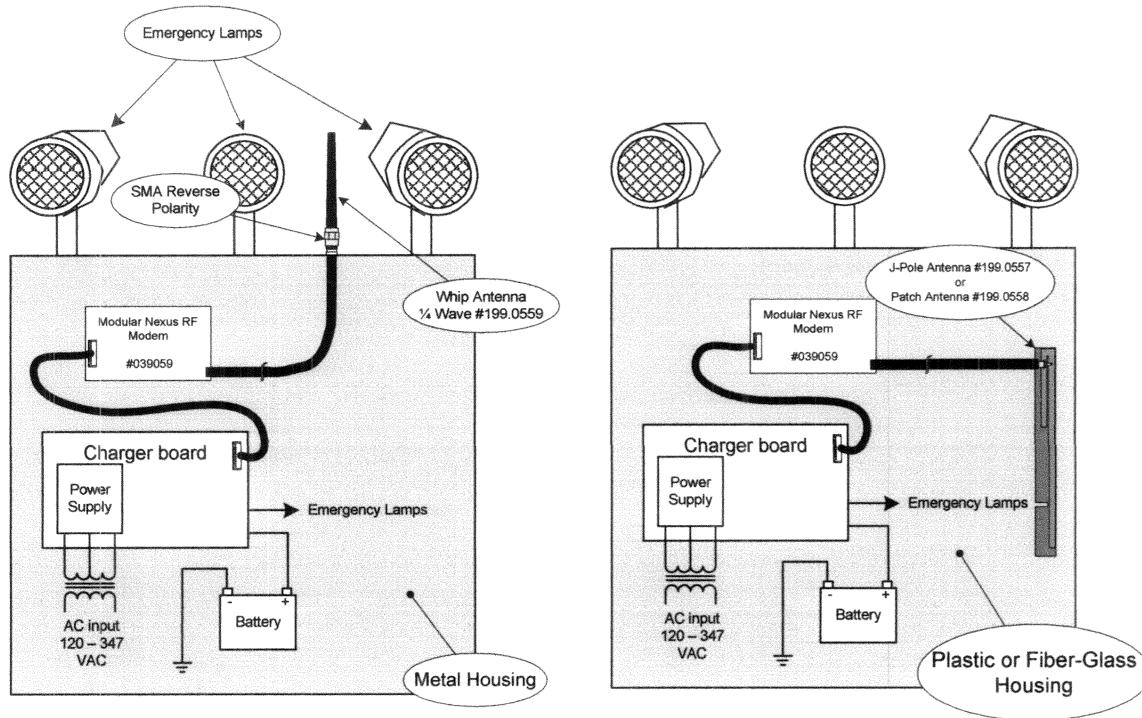

Figure 2
- i. One external Whip antenna type for the metal housing. A SMA reverse polarity connector type is used for this antenna. See an example at Figure 2.
- ii. Two internal antenna types for the plastic and fiber-glass housing. One Patch and one J-Pole antenna could be used for other emergency lightning products depending of the mechanical restrictions. See Figure 2 for example.